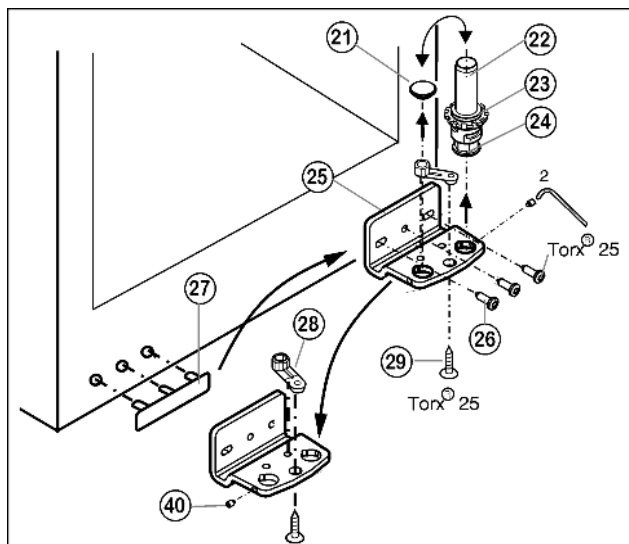

Fig. 6
- Using the accompanying Allen key, unscrew the threaded pin Fig. 6 (40) by about 1 turn.
- Turn and lift out the bearing pin Fig. 6 (22) together with the washer Fig. 6 (23) and adjustable-height foot Fig. 6 (24).
- Lift out the stopper Fig. 6 (21).
- Unscrew Fig. 6 (26) the turn hinge Fig. 6 (25).
- Fully unscrew the threaded pin Fig. 6 (40) and screw it in on the opposite side, at the turn hinge, until it is flush outside with the turn hinge.
- Unscrew Fig. 6 (29) the bearing element Fig. 6 (28) transfer it to the opposite location hole of the turn hinge and screw it firmly into place.
- Re-insert the stopper Fig. 6 (21) into the other hole.
- Carefully lift off the cover on the handle side Fig. 6 (27) and transfer it to the opposite side.
- Screw the turn hinge Fig. 6 (25) firmly into place on the new hinge side, possibly using a cordless screwdriver (with 4 Nm).
- Re-insert the bearing pin Fig. 6 (22) together with the washer and adjustable-height foot.
- Tighten the threaded pin Fig. 6 (40).
- ▶ Place the door from above onto the lower bearing pin *Fig. 6 (22)*.
- ▶ Align the door to the appliance housing by way of the two oblong holes in the bottom turn hinge *Fig. 6 (25)*. To do so, unscrew the middle screw.